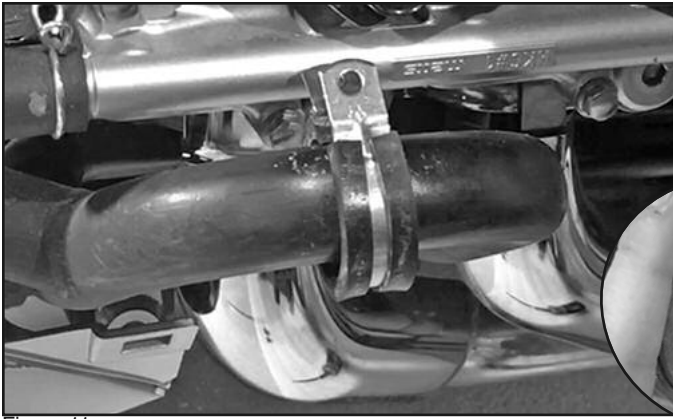

Figure 11
1. Install the "P" Clamp onto the stock engine bar. Flat Side Toward the Outside. **Figure 11**